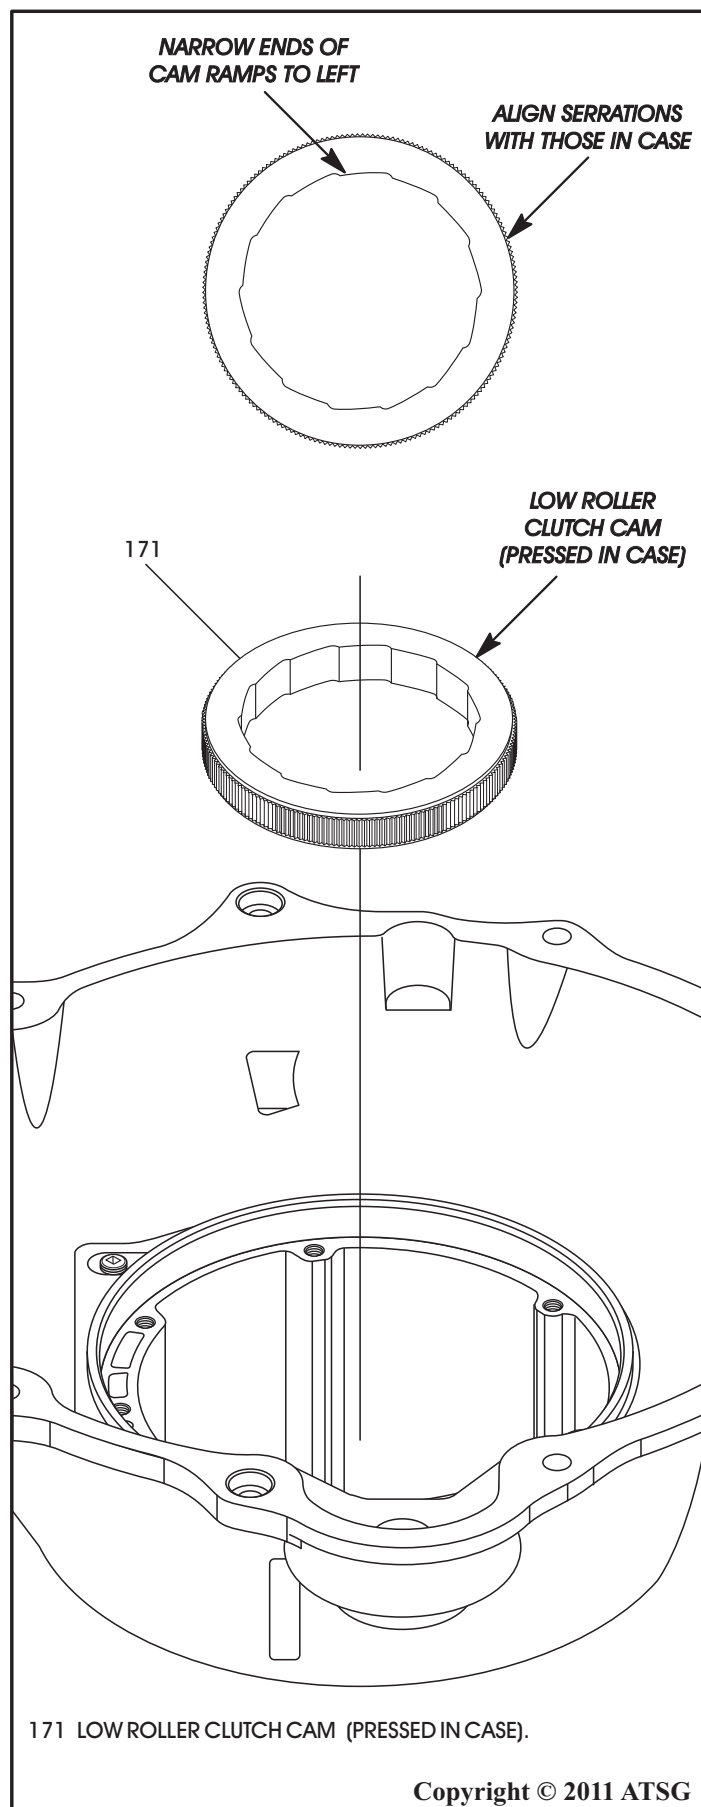

Figure 88
4. Align and start new clutch cam into the case, as shown in Figure 88.
Note: Be sure serrations on cam are aligned and narrow ends of cam ramps are to the left when viewed from front (See Figure 88).